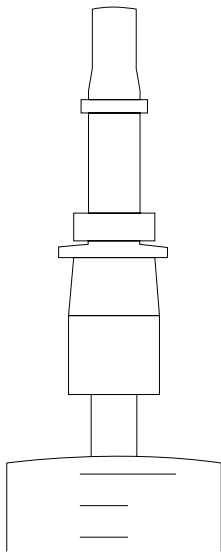

Figure 19 Insert tensiometer shaft
- Push the ceramic of the first tensiometer shaft into the tube piece (Figure 19).